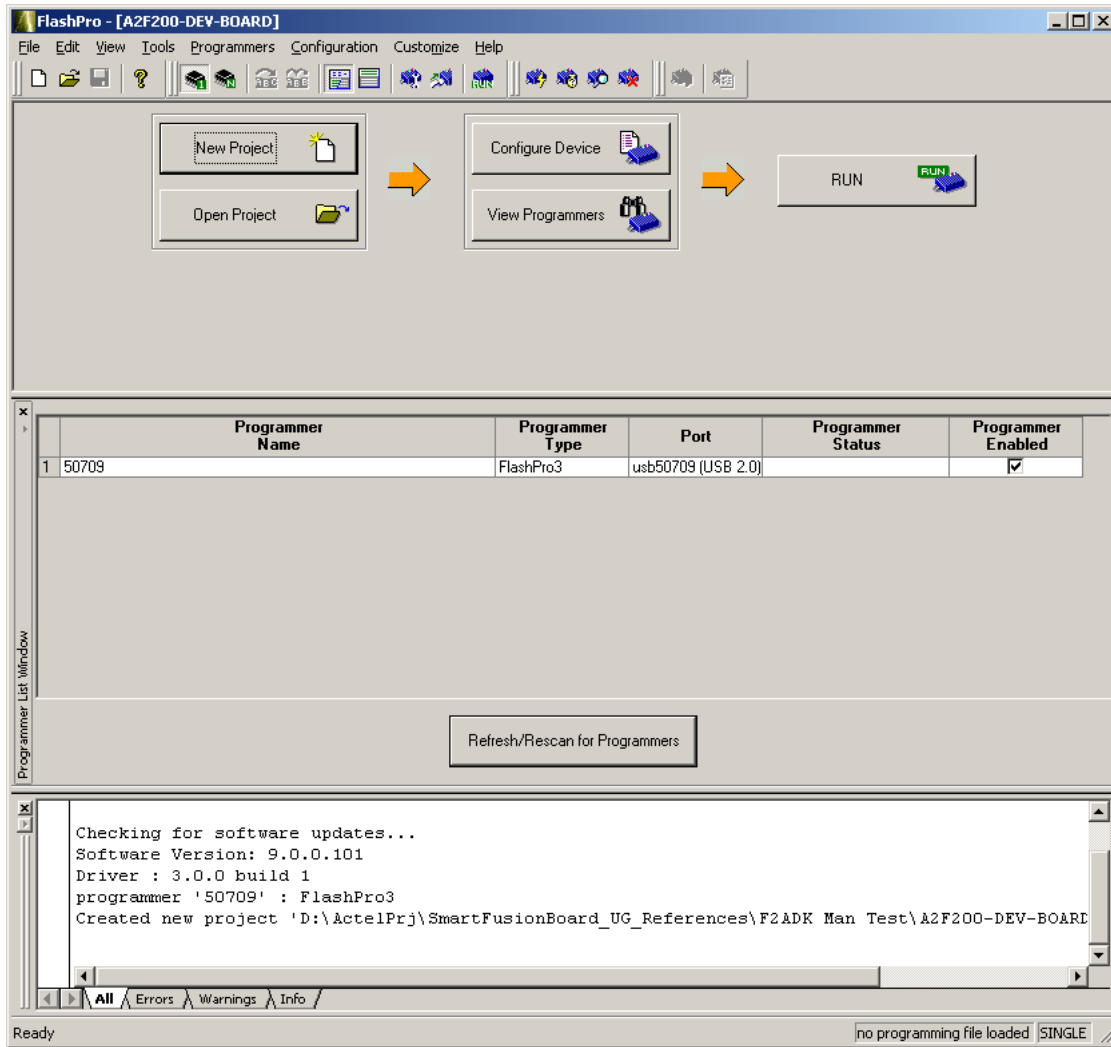

Figure 7-2 • FlashPro New Project Setup
1. Open the FlashPro programming software (Figure 7-2).